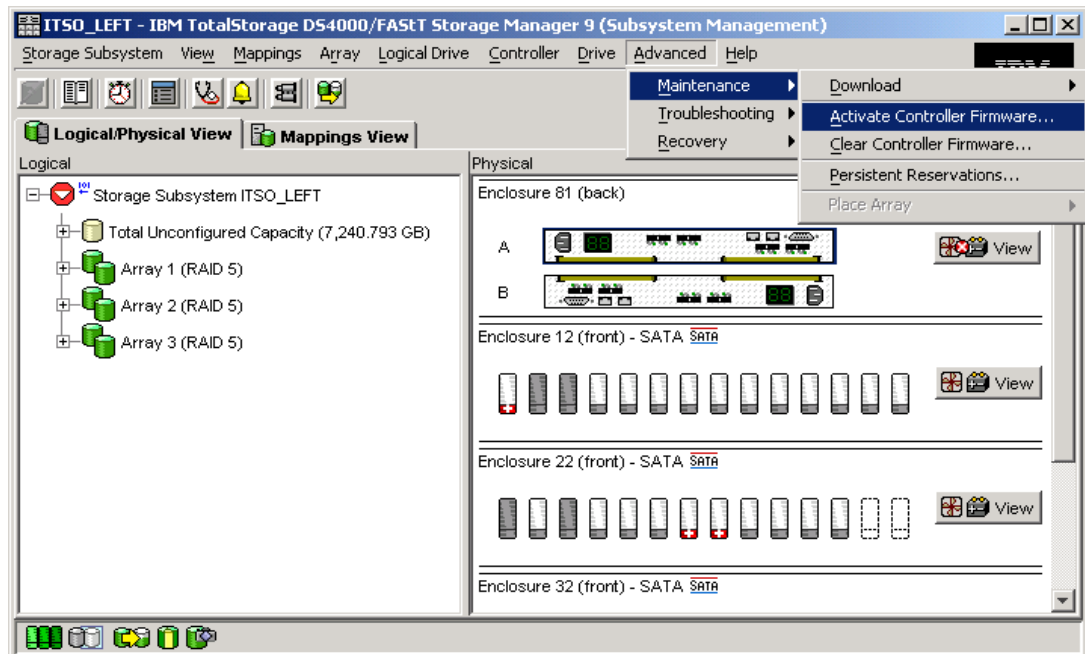

Figure 3-48 Subsystem Management window - Firmware activation
- To activate the new firmware, select **Advanced** → **Maintenance** → **Activate Controller Firmware**, as shown in Figure 3-48.